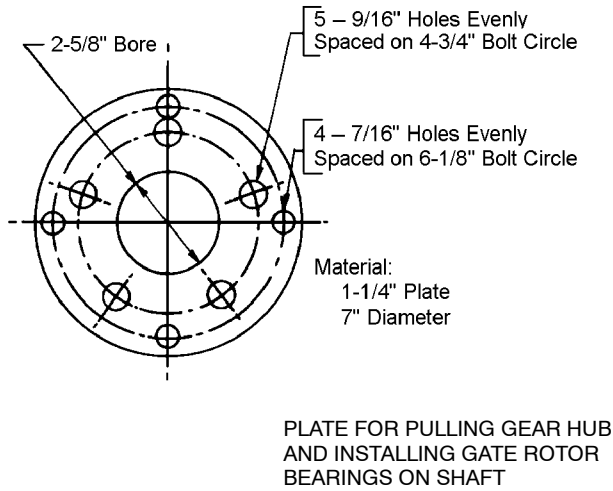

FIGURE 1 - ADAPTOR PLATE
1. Provide adaptor plate, FIGURE 1, for pulling gear hub, and for installing gate rotor bearings.